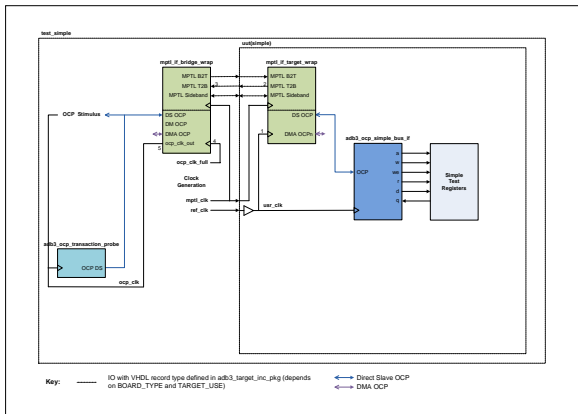

Figure 6: Simple Design Testbench Block Diagram
The testbench for the **Simple** example FPGA design is implemented in `hdl/vhdl/examples/simple/common/test_simple.vhd`. Figure 6 below shows the testbench, with the `simple_i` FPGA design embedded in it.
- In OCP-only simulation (**TARGET_USE = SIM_OCP**), the UUT's main OCP clock (**usr_clk** in this case) is routed out of the UUT (**simple_i**) via the **mptl_if_target_wrap** instance and into the testbench's instance of **mptl_if_bridge_wrap**. The **mptl_if_bridge_wrap** instance outputs this signal as **ocp_clk**. This route is shown in **Figure 6** as the route consisting of points 1, 2, 3 and 5.
- In full MPTL simulation (**TARGET_USE = SIM_MPTL**), **ocp_clk** is entirely independent of any clock within the UUT, and the testbench's **mptl_if_bridge_wrap** instance passes **ocp_clk_full** through to **ocp_clk**. This is shown in **Figure 6** as the route consisting of points 4 and 5.